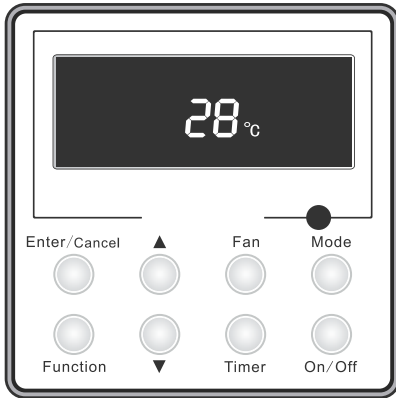

Fig.4 OFF State of the Unit
- ①. The state shown in Fig.4 indicates the OFF state of the unit after energization.